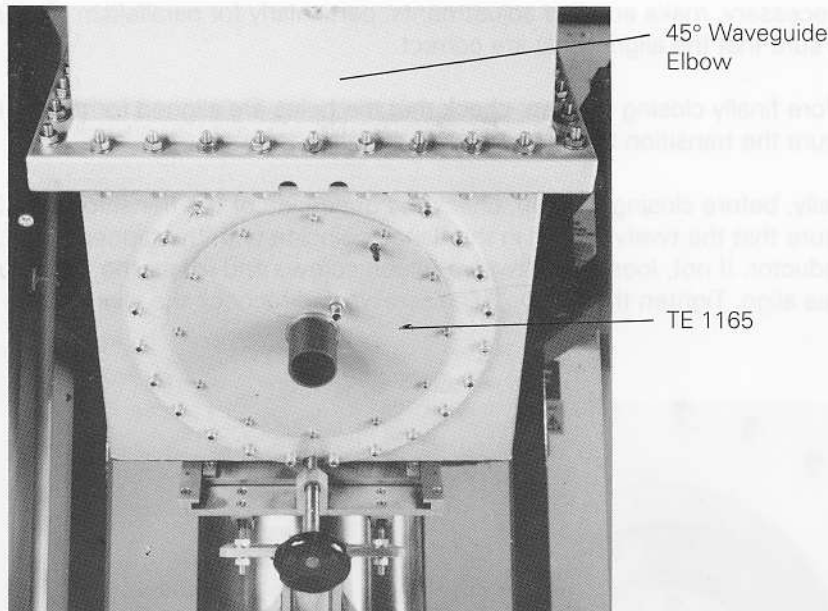

Fig. 36. Attaching the RF Output Window Cooling Air Inlet (TE 1165)
- (r) Attach the RF output window cooling air inlet plate (TE 1165) to the coaxial/waveguide transition (TE 1164B) (Fig. 36), using the 12 bolts and washers from package P9 (paragraph 1.1.(b)).
**NOTE:** The version shown in Fig. 36 has a customer-connection for air inlet temperature measurement.